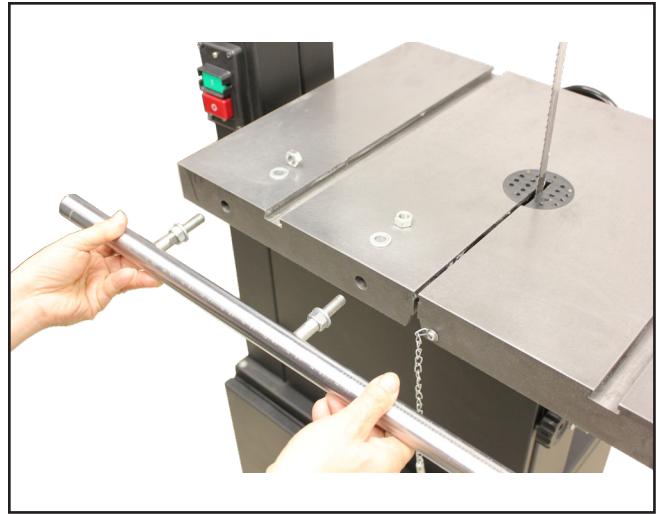

Figure 10: Installing the Fence Rails.
- Attach the Fence Guide Rail to the front edge of the table using the two Fence Bar Nuts and Washers Fig. 10.